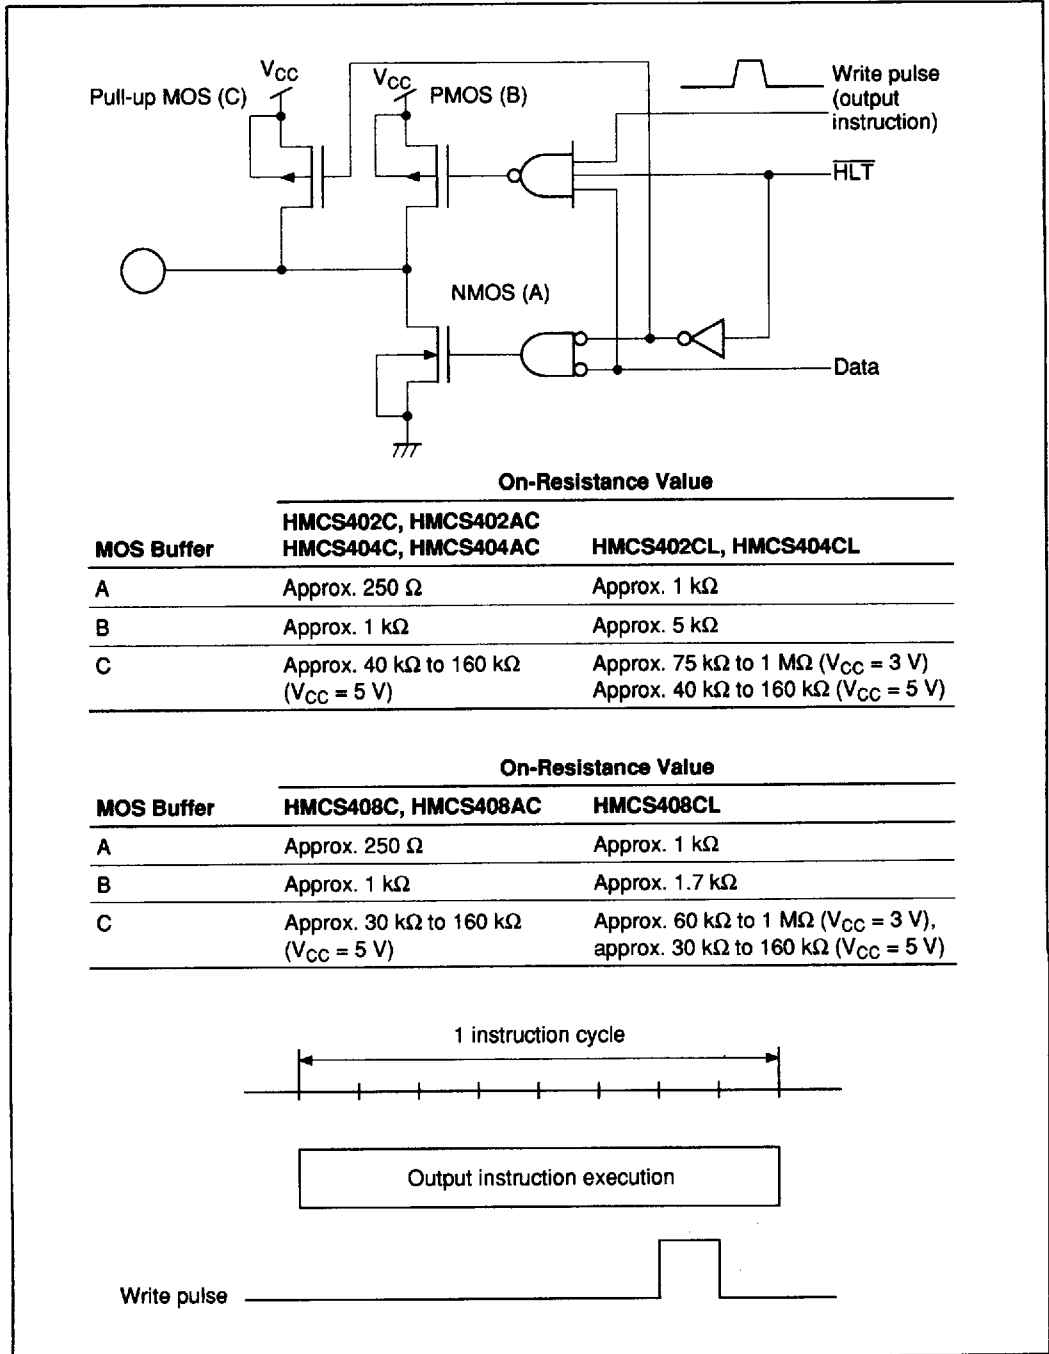

Figure 15 Output Circuit Operation of With Pull-Up MOS Standard Pins
**Output Circuit Operation of With Pull-Up MOS Standard Pins:** In the standard pin option with pull-up MOS, the circuit shown in figure 15 is used to shorten the rise time of output.